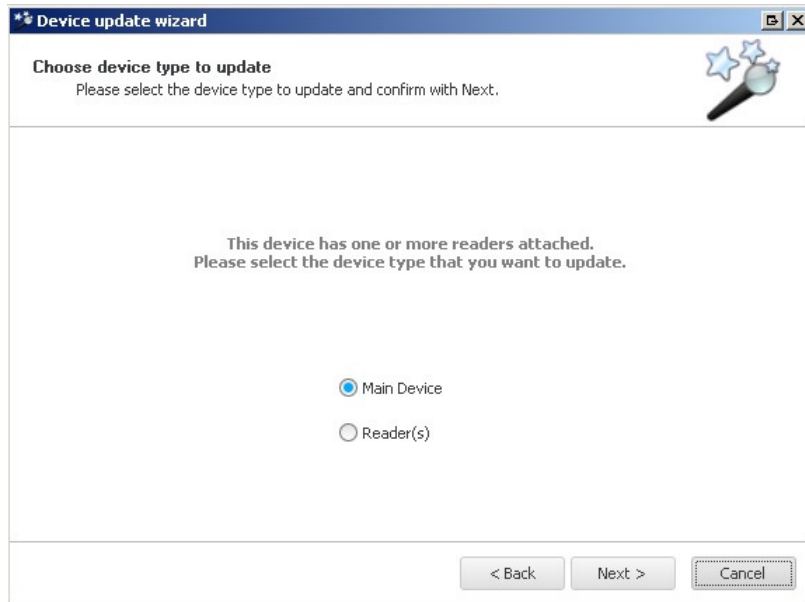

Figure 7.2 – Device update wizard
- Select “Main Device” in the first window then click “Next” (Figure 7.2).